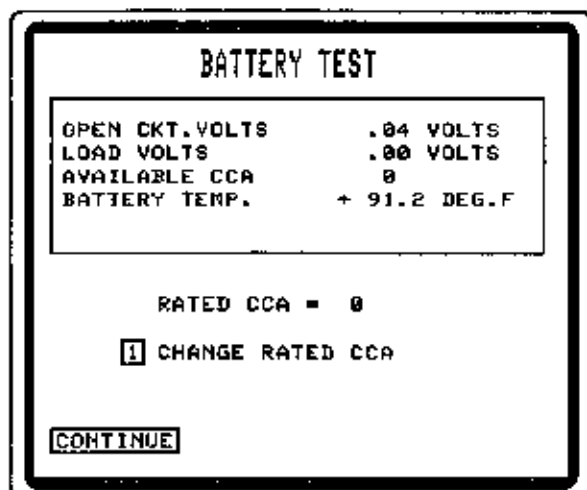

Figure 113
1. If battery marking agrees with rated C.C.A. shown on the display, press [CONTINUE] twice (see Figure 113).